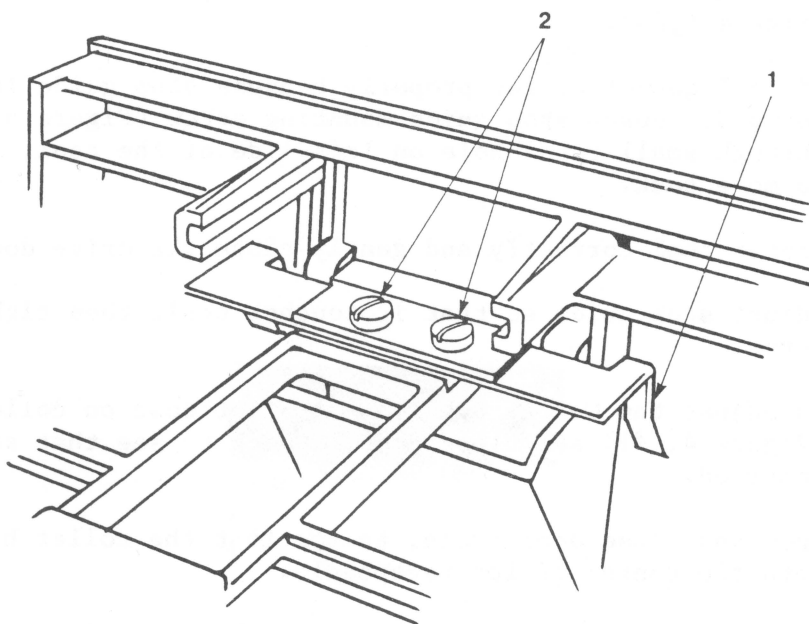

FIGURE 7
4. Set the new door in place noting the position of the door guides (Figure 7,#1) and snug the screw to hold it in place.
7. While gently closing the drive door, observe the two guide bars (Figure 7,#1), which are visible when viewed from the back of the drive looking towards the front. There should be no binding between the guides and tool.